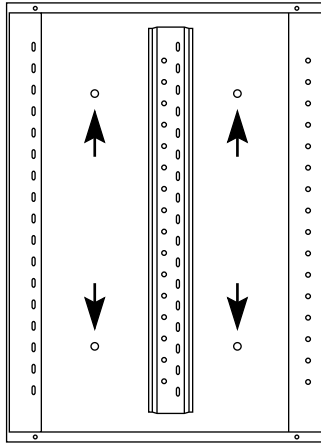

Figure 3-3. Surface mounting screw locations.
1. Using a level, position the chassis against the mounting board and mark the four screw locations with a pen or pencil. (See Figure 3-3.)